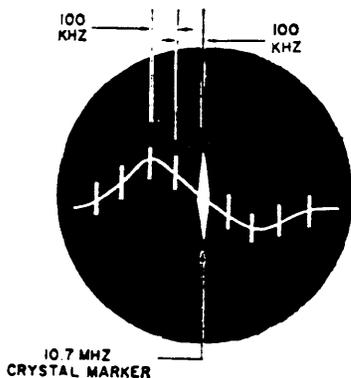

Figure 11.2 Typical 10.7 MHz Discriminator Response Curve with 100 KHz Markers Added
11.1.1.11 Remove the direct cable connection from the i-f alignment test point and reconnect it to the discriminator or detector test point as specified in the alignment instructions. A typical discriminator "S"-curve is shown in Fig. 11.2. The discriminator bandwidth requirements vary among manufacturers. The use of the 100 KHz markers enables the operator to identify any bandwidth required. In addition, it is possible to interpolate between the 100 KHz markers to obtain additional frequency resolutions when performing i-f and discriminator alignments.